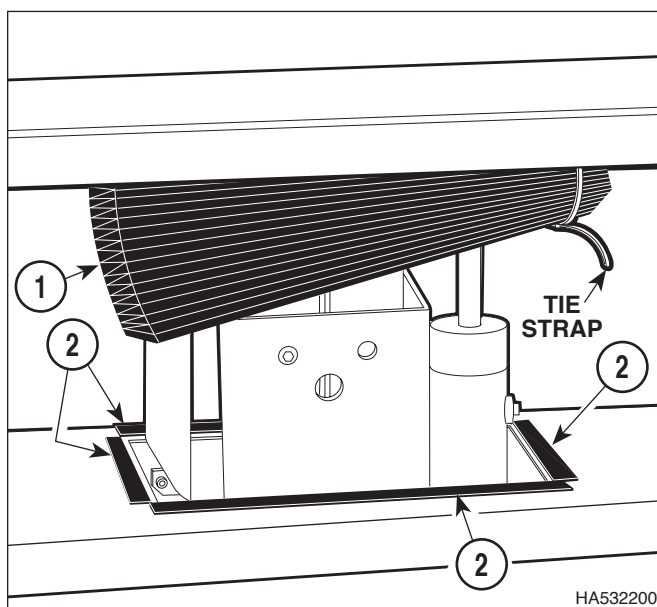

Figure 4-1. Raise Bellows For Access
- (1) Pull the bottom of the bellows (1, Figure 4-1) up from four velcro strips (2).
- (2) If necessary, tie bellows (1) up out of the way with a tie strap.